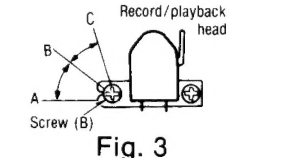
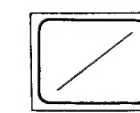

Fig. 3
Fig. 6
<ul style="list-style-type: none"> Pull out the connectors A, B, C, D, E, F, (see fig. 3).
- Playback the 8kHz signal from the test tape (QZZCFM). Adjust screw (B) in fig. 3 for maximum output L-CH and R-CH levels. When the output levels of L-CH and R-CH are not at maximum at the same point adjust as follows.
- Turn screw (B) shown in fig. 3 to find angles A and C (points where peak output levels for left and right channels are obtained). Then, locate angle B between angles A and C, i.e., point where L-CH and R-CH outputs are balanced. (Refer to figs. 3 and 4.)
- Playback the 8kHz signal from the test tape (QZZCFM). Adjust screw (B) shown in fig. 3 so that pointers of the two EVMs swing to maximum and a lissajous waveform as illustrated in fig. 6 is obtained on the oscilloscope.